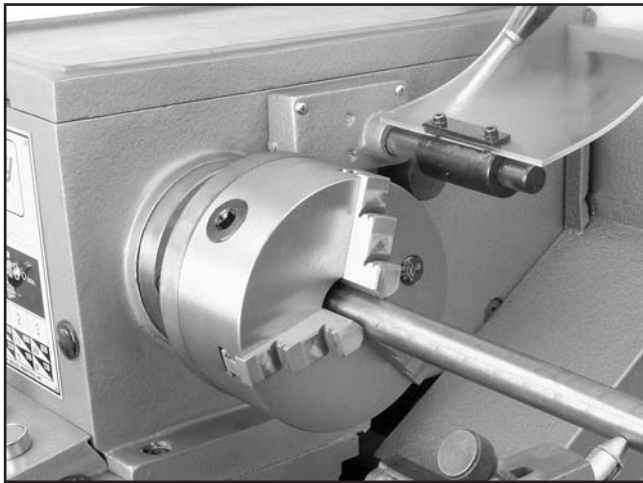

Figure 17. Example of a concentric shaft secured in the 3-jaw chuck.
4. Close the jaws until they make light contact with the workpiece, as shown in **Figure 17**.